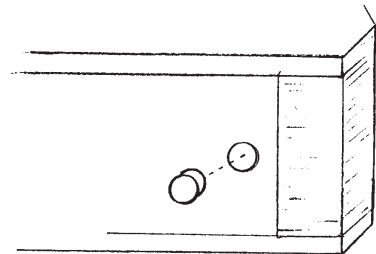

FIG. 11
- ___14. Plug the countersunk screw holes in the front and rear **RAILS** by gluing the four walnut plugs into the holes. (fig. 11)